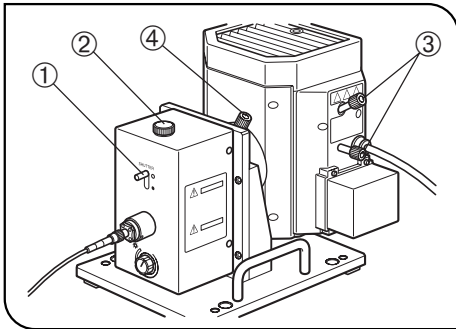

Fig. 1
1 Centering the Mercury/Xenon Burner (Figs. 1 & 2)
1. Set the light path selector lever ① of the reflected light illuminator to the BF position.
4. The light path selector lever ① of the reflected light illuminator to the DF position for UV observation.
6. Set the shutter selector lever of the light source box (① in Fig. 1) to the upper position (marked O) to open the shutter.
8. Using a Phillips screwdriver, loosen slightly the three clamping screws ② of the UV light guide mount.
9. Insert the provided Allen screwdriver alternatively into the two adjustment screws ③ and turn the screws until the brightest observation image is obtained.
10. After completing the adjustment, be sure to tighten the three clamping screws ②.